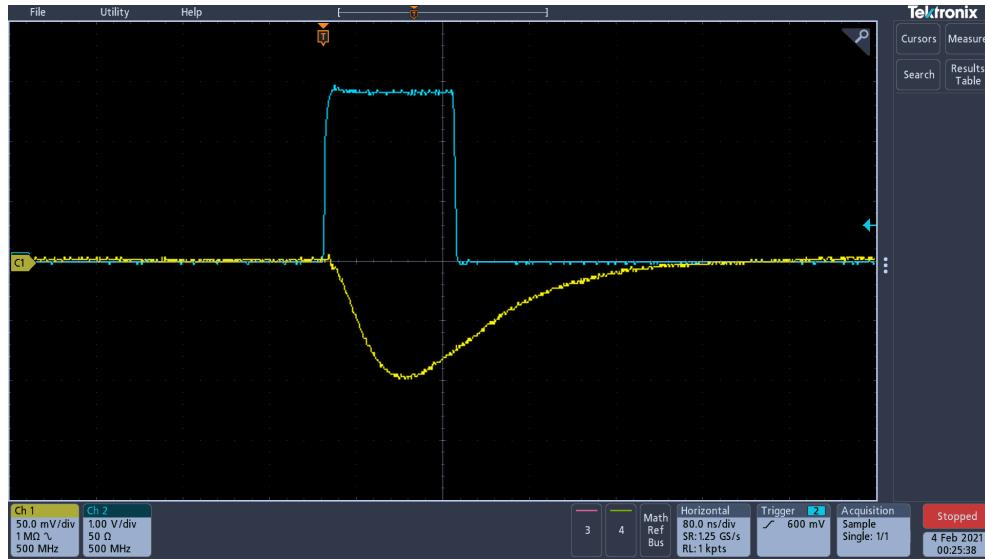

Fig. 10.36: Example of HG Preamplifier output (yellow line) together with the LED driver trigger (blue line).
6. Select the "PREAMP_HG" option for the "Analog Probe" parameter and press the Apply button. The output is the **negative** polarity signal from the Citroc-1A HG Preamplifier of the selected channel and should be similar to the one shown in Fig. 10.36.